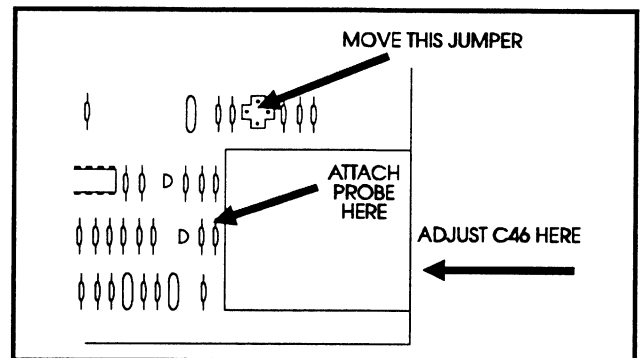

Fig. 4-32. Location of R58 and placement of the probe.
- Attach the probe to R58 as shown in Fig. 4-32.